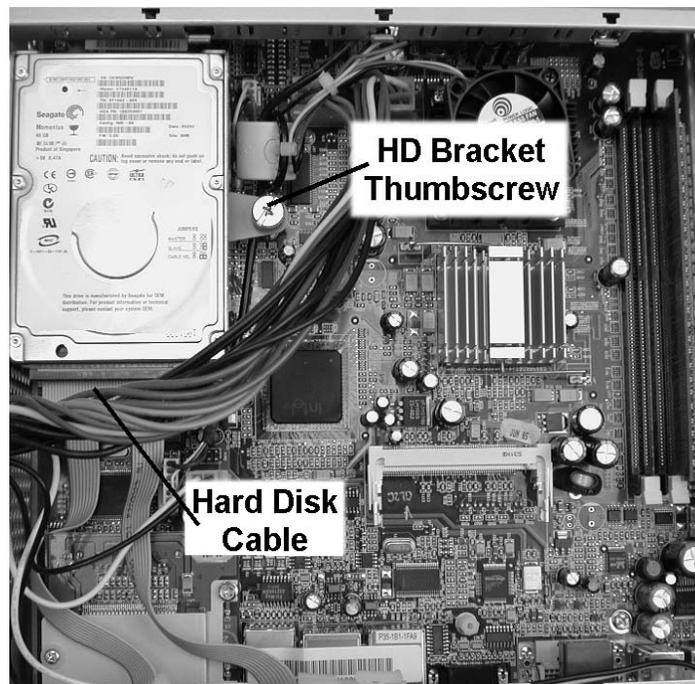

Figure 3-37: Removing the Power Cable and Hard Disk Bracket
2. To access the uDOC socket, the hard disk bracket must be removed. Refer to Figure 3-37. Remove the Hard Disk Bracket thumbscrew and set the assembly to the side.